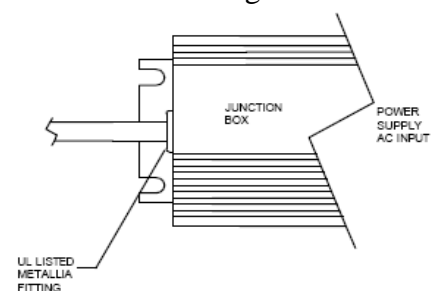

Fig4
- Conduit fitting shall be used; UL listed, threaded on to power Supply, Liquid tight, metallic, provided for connection to the AC circuit (Fig 4).